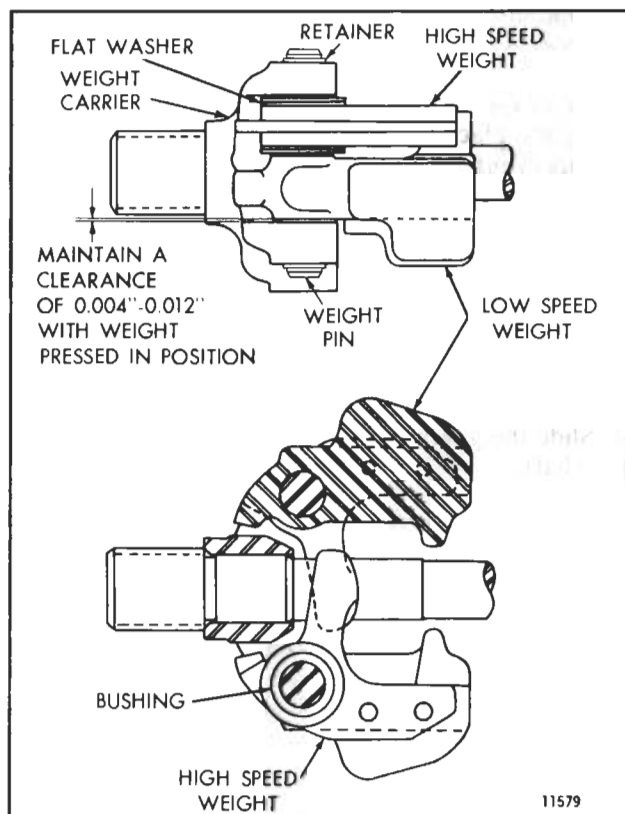

Fig. 8 - Cross Section of Governor Weight Assemblies (Turbocharged Engines)
- a. Matchmark the low and high-speed weights and carrier with paint or a center punch for identification; also note the position of the flat washer at the side of the high-speed weight so the parts can be replaced in their original positions (Fig. 8).